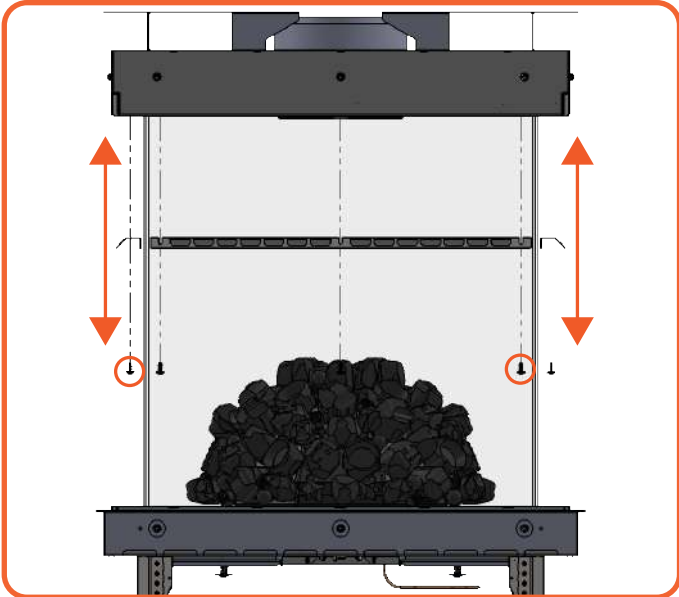

Figure 9.3 | Remove Inner glass brackets
- Carefully take out the corner glasses by pulling them outward a bit, lifting them and tilting them out, see Figure 9.3.